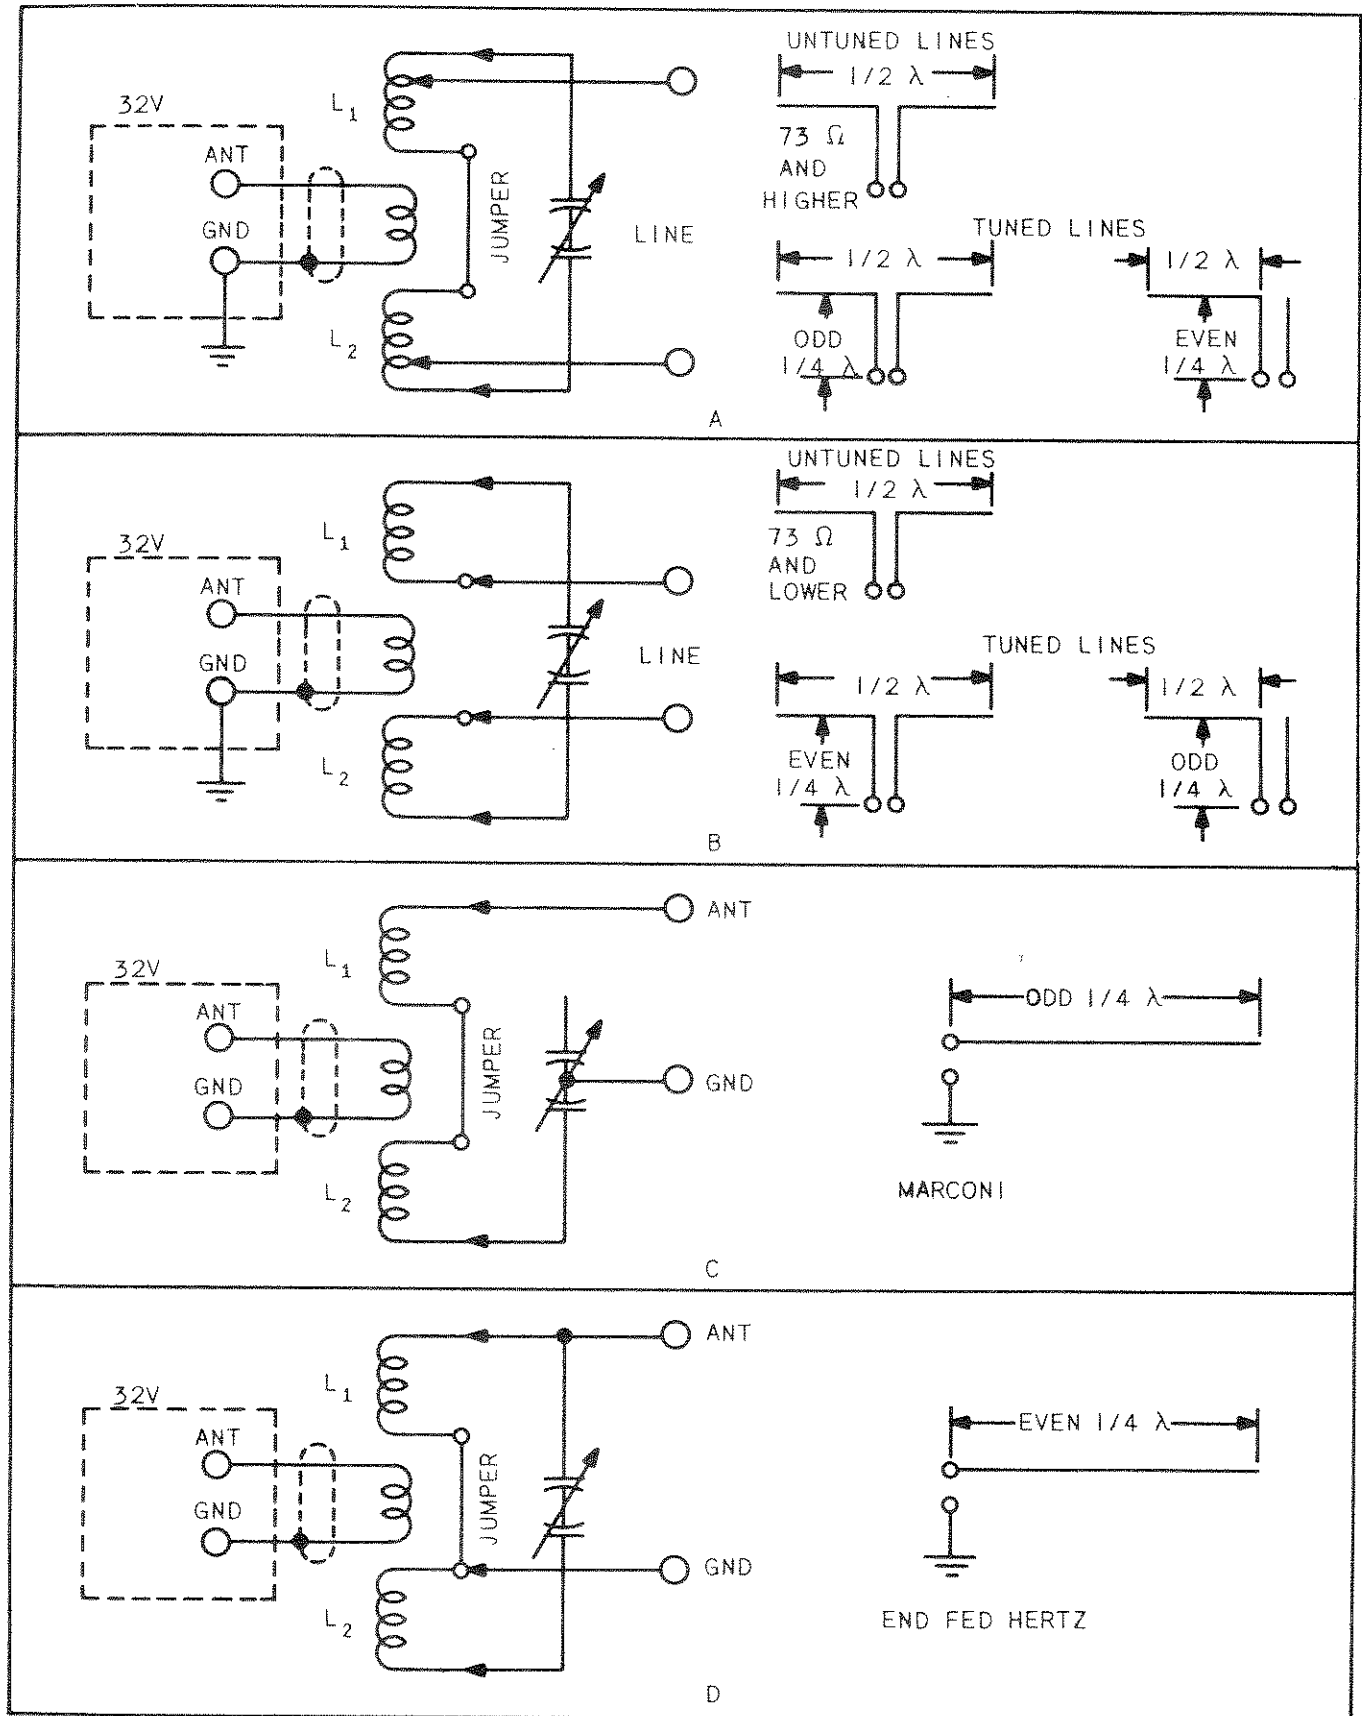

Figure 2-3. Typical Antenna Tuner Circuits
a. **UNTUNED HIGH IMPEDANCE TRANSMISSION LINE.** - If the line has a characteristic impedance of 73 ohms or more, parallel tuning of the antenna coils L1 and L2 should be employed. For parallel tuning, the little jumper seen above the antenna coils should be closed. The transmission line taps should be set on the same turns as the capacitor taps to start with, then varied towards the center of the coils until proper loading is obtained. The transmission line taps are those at the top of the coils while the capacitor taps are those nearer the bottom. In this type of operation, low values of capacitance and high values of inductance for the operating frequency generally are best. See illustration A., figure 2-3.
b. **UNTUNED LOW IMPEDANCE TRANSMISSION LINES.** - Transmission lines having a characteristic impedance of less than 50 ohms require series tuning of the antenna coils. This is done by opening the small jumper seen above the coils and moving the transmission line tap arms to the inside coil turns. The capacitor taps should be set at the outside turns and varies toward the inside turns until proper loading is obtained. Higher values of tuning capacity usually work out best in this type of operation. See illustration B., figure 2-3.
e. QUARTER WAVE MARCONI. - Series tuning is indicated for quarter wave Marconi antennas. In this type of operation, the antenna tuning circuit should be connected so that the two sections of the antenna coil, and one-half of the antenna tuning capacitor are in series. To do this, place a grounding jumper to the rotor of the antenna tuning capacitor, connect the antenna to one end of the antenna coil, connect one stator of the tuning capacitor to the other end of the antenna coil and disconnect the other stator completely. (Place a piece of insulation material between the tap rotor and the coil turns.) See illustration C., figure 2-3. In event r-f voltage appears on the cabinet, it can be minimized by extending the ground wire to $1/2$ wave length and series tuning it until resonance is obtained.
f. END FED HALF WAVE. - This tuner can be used to tune this type of antenna also. Parallel tuning should be employed for this type operation. The antenna should be connected to one end of the antenna coil, a ground connection should be made to the inside turn of one of the antenna coils, and the little jumper on top of the coils should be closed. The tuning capacitor taps should be equally spaced from each end of the antenna coils for proper tuning at the operating frequency. See illustration D., figure 2-3.